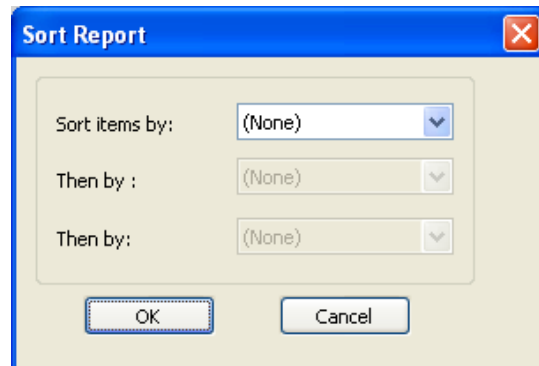

Figure 57
3. The transactions can be sorted by any field (You must first “generate” a report before it can be sorted (See 5.3.3). Click the SORT REPORT button to display the Sort report window (Fig 57). Enter the sorting parameters that you need.